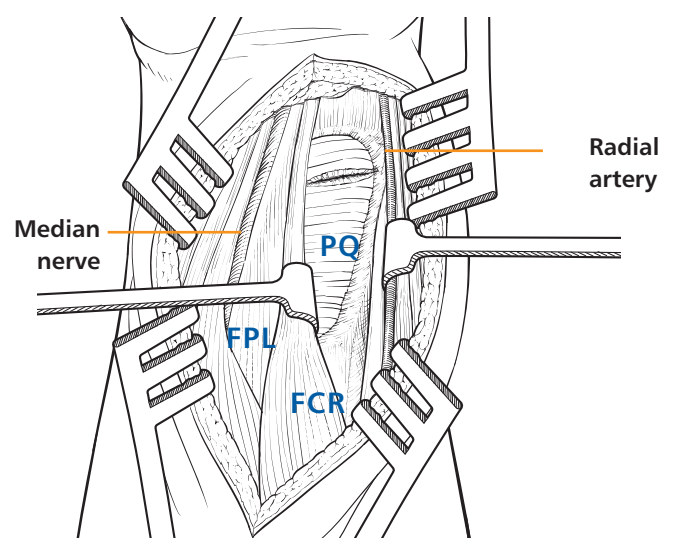

Fig. 4
4. Mobilize the FPL ulnarly, releasing the muscle fibers from the radius. The median nerve is ulnar to the area of dissection, and the mobilized FPL will protect the nerve. The pronator quadratus (PQ) will be directly visualized with the distal portion usually obscured by the pre-muscular fat pad. The distal portion of the pronator quadratus is often torn (Fig. 4).